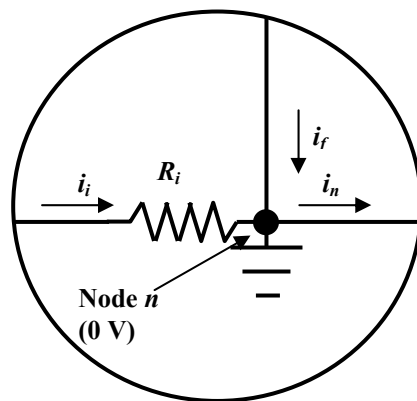

Figure 6. Current Relationships.
3.2.3. By Kirchoff’s current node law $\sum i_{node} = 0$ at “Node n” (Fig. 6).